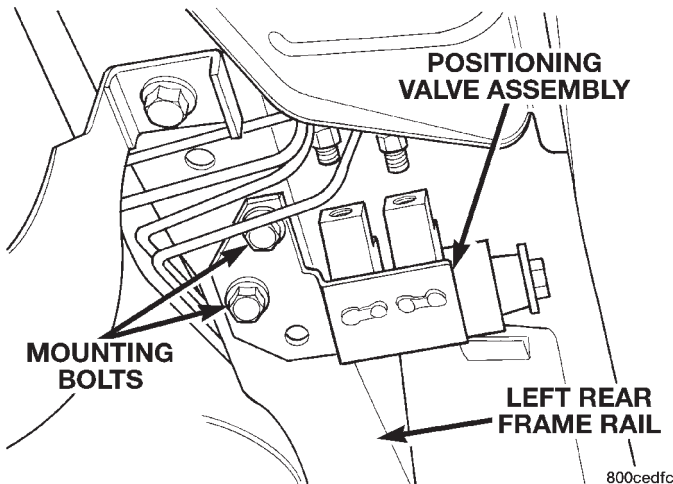

Fig. 133 Proportioning Valve Attachment To Vehicle
CAUTION: When mounting the original or a replacement proportioning valve on the frame rail of the vehicle install the mounting bolts in only the two forward holes of the mounting bracket (Fig. 133).
(1) Install proportioning valve assembly on the frame rail of the vehicle. Install the proportioning valve assembly attaching bolts (Fig. 133). Tighten the attaching bolts to a torque of 14 N·m (125 in. lbs.).